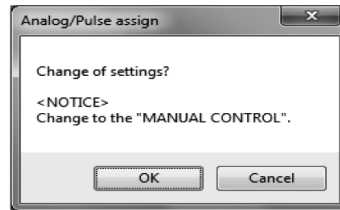

Fig.34
- ④ Click the "OK" button after all settings are completed to display the message box (Fig. 34).